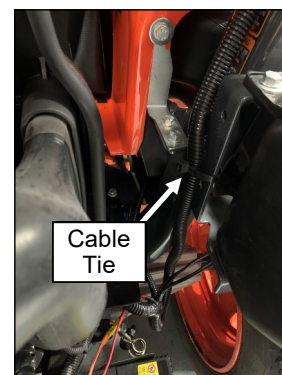

Fig. 7.2 (Secure Wire Harness to Vehicle)
7.2 See fig. 7.2. Secure the wire harness to the vehicle frame using a cable tie as shown. Ensure that the harness will not contact any sharp edges.